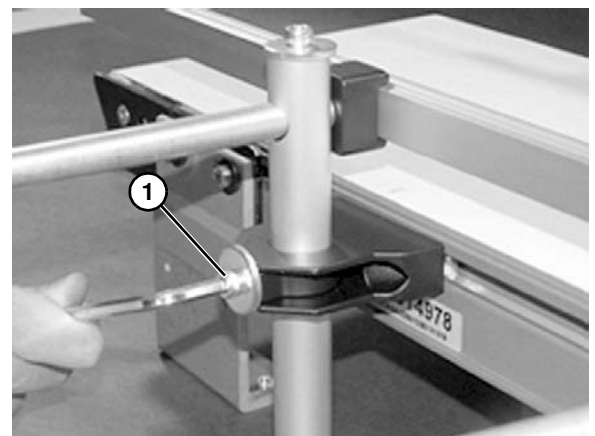

Figure 26
7. Adjust rail height with lower screw (**Figure 26, item 1**).